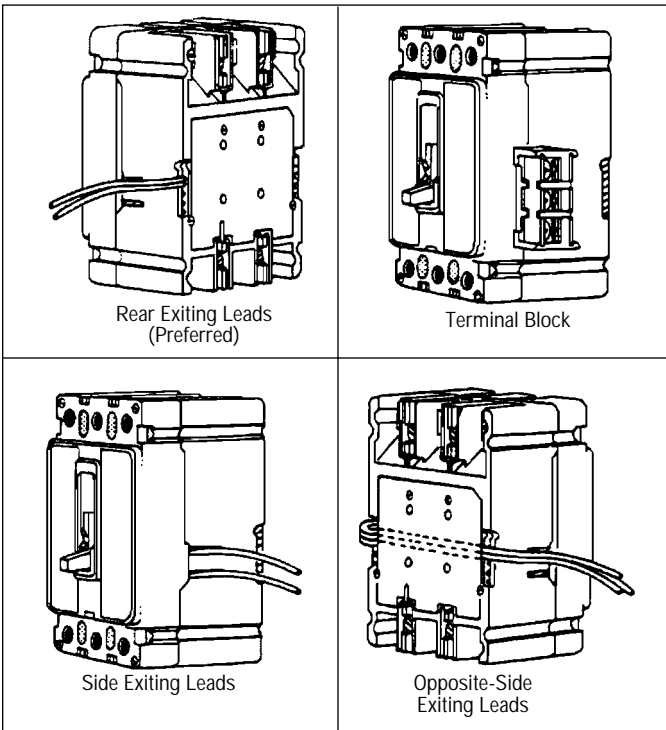

Figure 2-2 Accessory Wiring Options
- 2-5. Route wiring to meet installation requirements (see Figure 2-2).